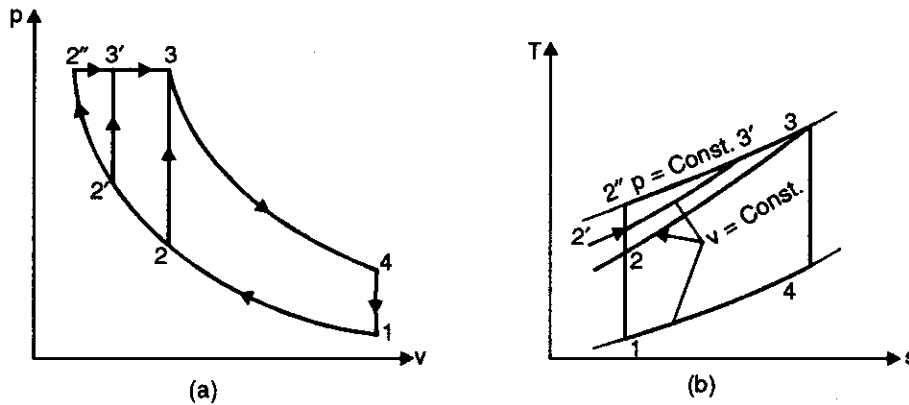

Fig. 13.29
**Solution.** Refer Figs. 13.29 (a) and (b).
Otto 1-2-3-4-1, Dual 1-2'-3'-3-4-1, Diesel 1-2''-3-4-1 (Fig 13.29 (a)).
Slope of constant volume lines on  $T-s$  diagram is higher than that of constant pressure lines. (Fig. 13.29 (b)).